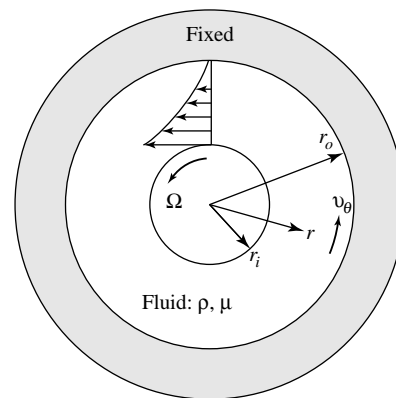

Fig. 4.17
**4.81** Modify the analysis of Fig. 4.17 to find the velocity  $v_\theta$  when the inner cylinder is fixed and the outer cylinder rotates at angular velocity  $\Omega_0$ . May this solution be added to Eq. (4.146) to represent the flow caused when both inner and outer cylinders rotate? Explain your conclusion.